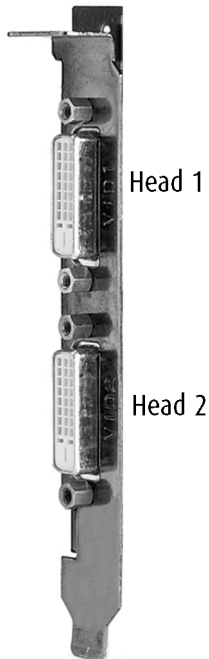

Figure 6: The Video Outputs.
6. Connect the primary display (left most display in a linear configuration, top most in a vertical configuration) to the uppermost connector on the BarcoMed 5MP2FH (the output farthest from the motherboard – **"Head 1"** in figure 6 on page 41) using the provided DVI cable. For a dual-headed BarcoMed 5MP2FH setup, connect the secondary display to the other connector on the display controller.